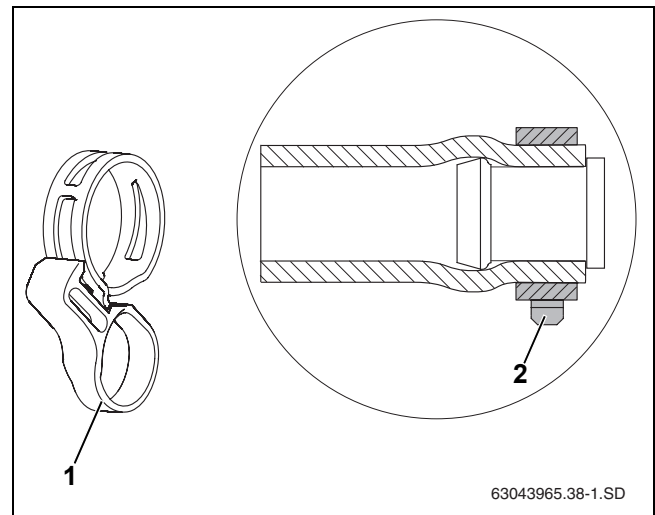

Fig. 32 Hose clip with locking ring fixed to the pre-assembled dummy plug
- ▶ It is very important that the hose clip is positioned correctly before removing the locking ring (Fig. 32, itm 1 and 2). Subsequent loosening using pliers can impair resilience.